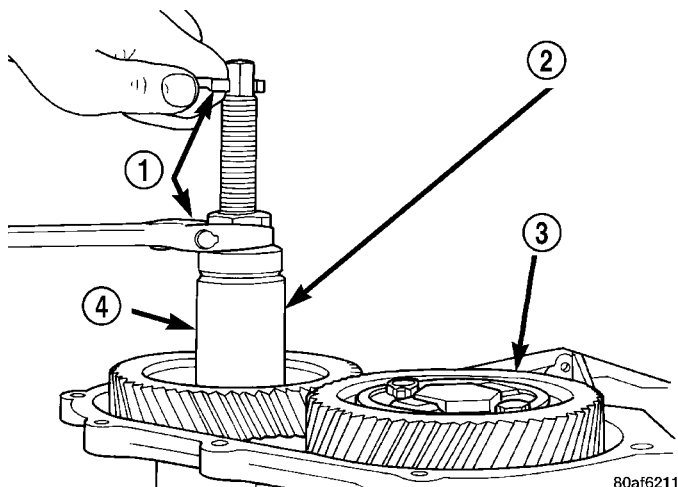

Fig. 119 Install Transfer Shaft Gear
(32) Install the transfer shaft gear using Tool 6261 (Fig. 119).